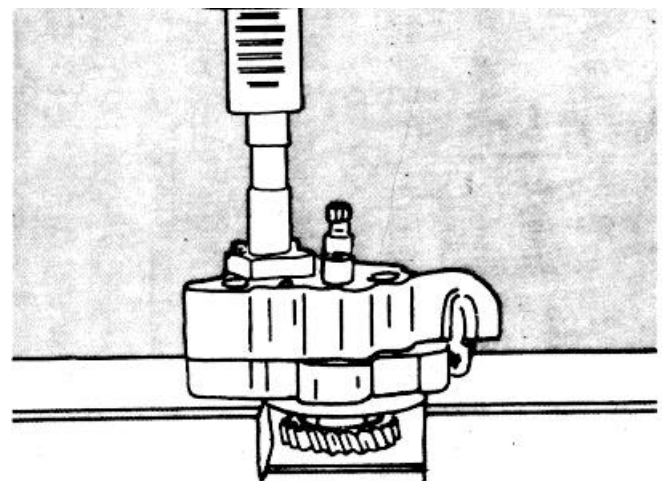

Fig. 7-11. Install The Assembly..
- e. Install the small diameter end of the mandrel into the locating plate. Push on the mandrel with an arbor press until the large end of the mandrel is against the locating plate, Fig. 7-11.